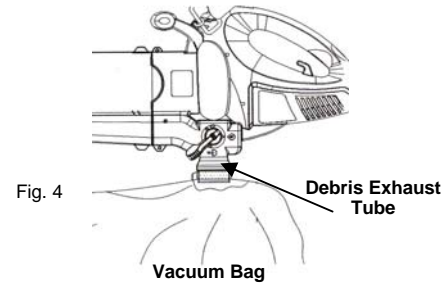

Fig. 4
3. Tighten the vacuum bag onto the debris exhaust tube and fasten the velcro strap securely on top of the ridge created for the bag cuff. (Fig. 4)